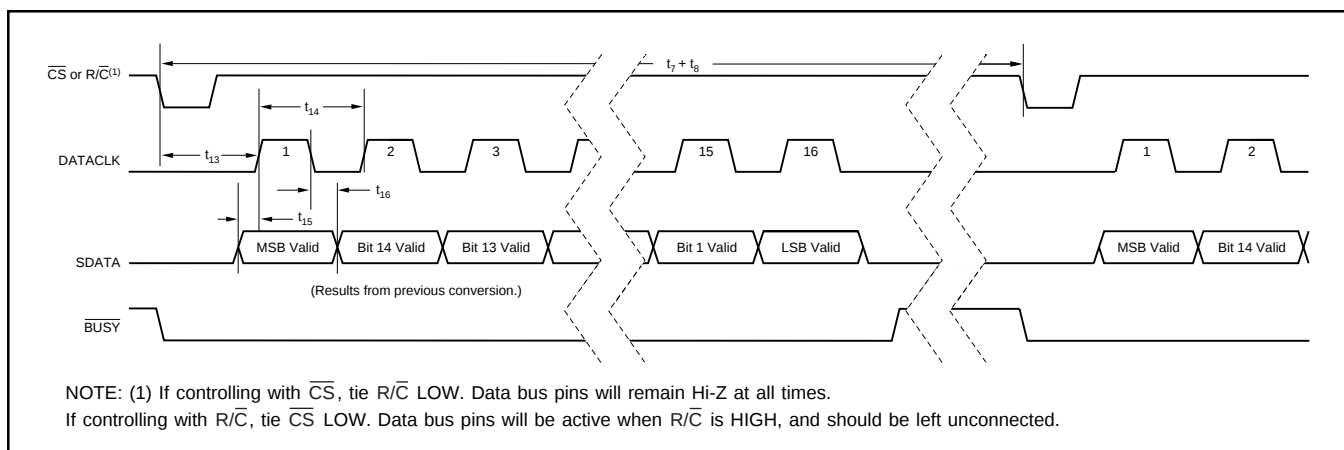

FIGURE 4. Serial Data Timing Using Internal Data Clock (TAG tied LOW).
NOTE: (1) See Figures 4, 5, and 6 for constraints on data valid from conversion 'n – 1'.
To use the internal data clock, tie $\text{EXT}/\overline{\text{INT}}$ (pin 8) LOW. The combination of $\overline{\text{R}/\text{C}}$ (pin 22) and $\overline{\text{CS}}$ (pin 23) LOW will initiate conversion 'n' and activate the internal data clock (typically 900kHz clock rate). The ADS7807 will output 16 bits of valid data, MSB first, from conversion 'n-1' on SDATA (pin 19), synchronized to 16 clock pulses output on DATACLK (pin 18). The data will be valid on both the rising and falling edges of the internal data clock. The rising edge of $\overline{\text{BUSY}}$ (pin 24) can be used to latch the data. After the 16th clock pulse, DATACLK will remain LOW until the next conversion is initiated, while SDATA will go to whatever logic level was input on TAG (pin 20) during the first clock pulse. Refer to Table V and Figure 4.